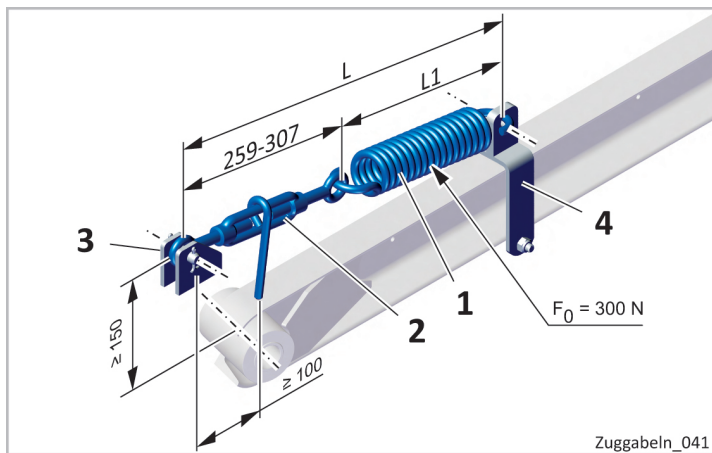

Figure 17: Type GHE height adjustment system
- ▶ Decide on the fastening point on the bogie. The fastening point should be no more than 100 mm behind and no less than 150 mm above the rotating axle of the drawbar, see Fig. 17.
- ▶ Weld the bracket (3) of the height adjustment system onto the bogie using a circumferential fillet weld (a = 3 mm).